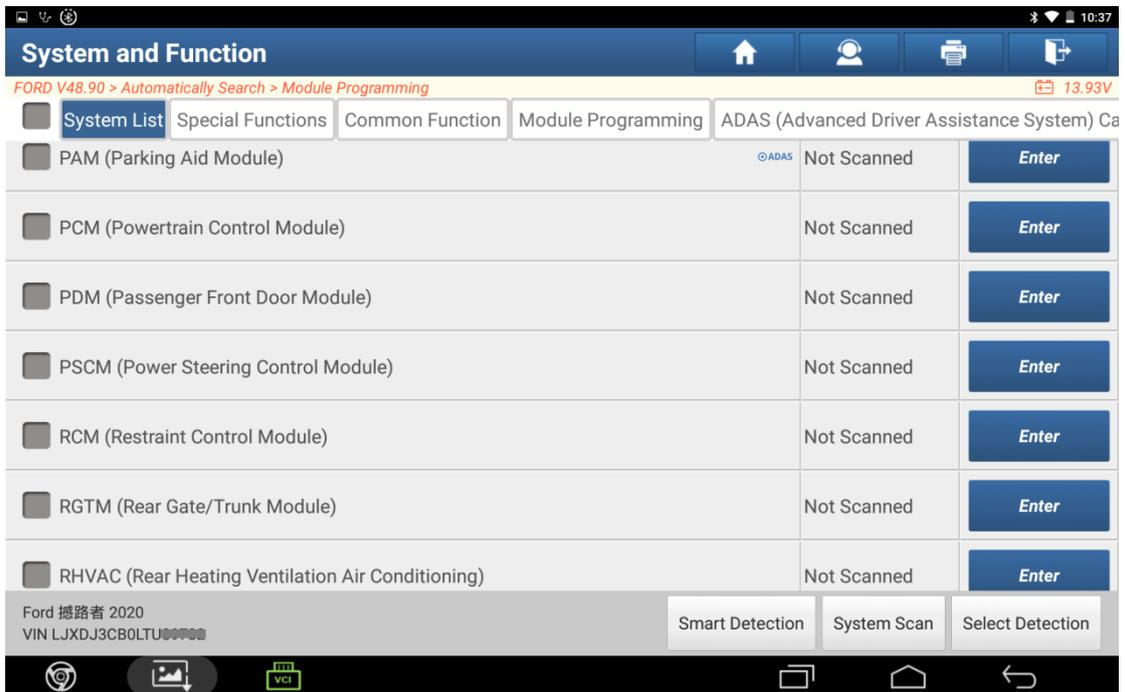

Figure C16
13. Prompt to turn off the ignition switch. Click OK to exit the function and return to the main menu. See Figure C16.